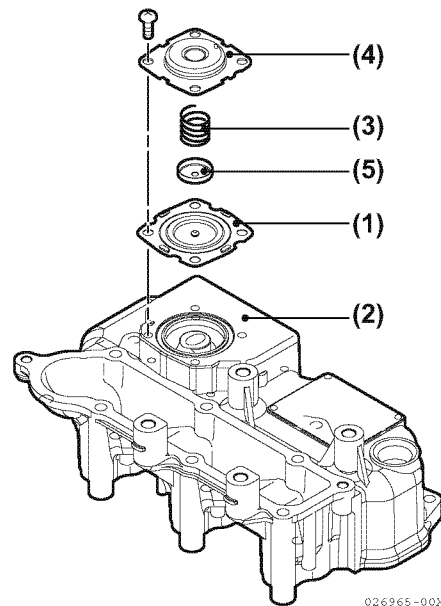

Figure 5-18
The TNM engines use a crankcase breather system that has a spring-backed diaphragm (**Figure 5-18, (1)**) in the valve cover (**Figure 5-18, (2)**). When the crankcase pressure reaches a predetermined value, the diaphragm opens a passage that allows crankcase fumes to be routed to the intake manifold.
To inspect the diaphragm and spring (**Figure 5-18, (3)**):
1. Remove the bolts retaining the diaphragm cover (**Figure 5-18, (4)**).
2. Remove the diaphragm cover, spring, diaphragm plate (**Figure 5-18, (5)**) and diaphragm.